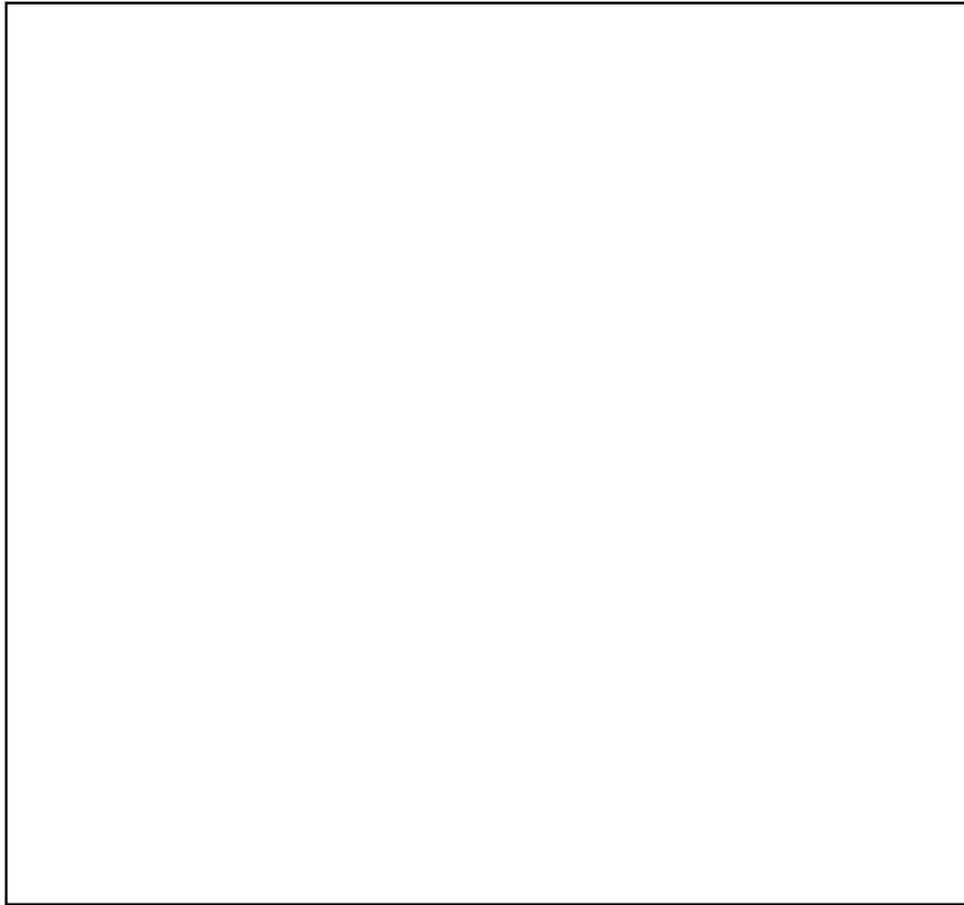

Figure 011-141-0105-1. Individual flight records folder (left side)
- a. Identify forms for left side of the IFRF. Separate subject areas with DA Forms 201A that are labeled "Supplemental Documents," "Medical," and "Orders". Arrange documents in chronological order with most recent on top (figure 011-141-0105-1).